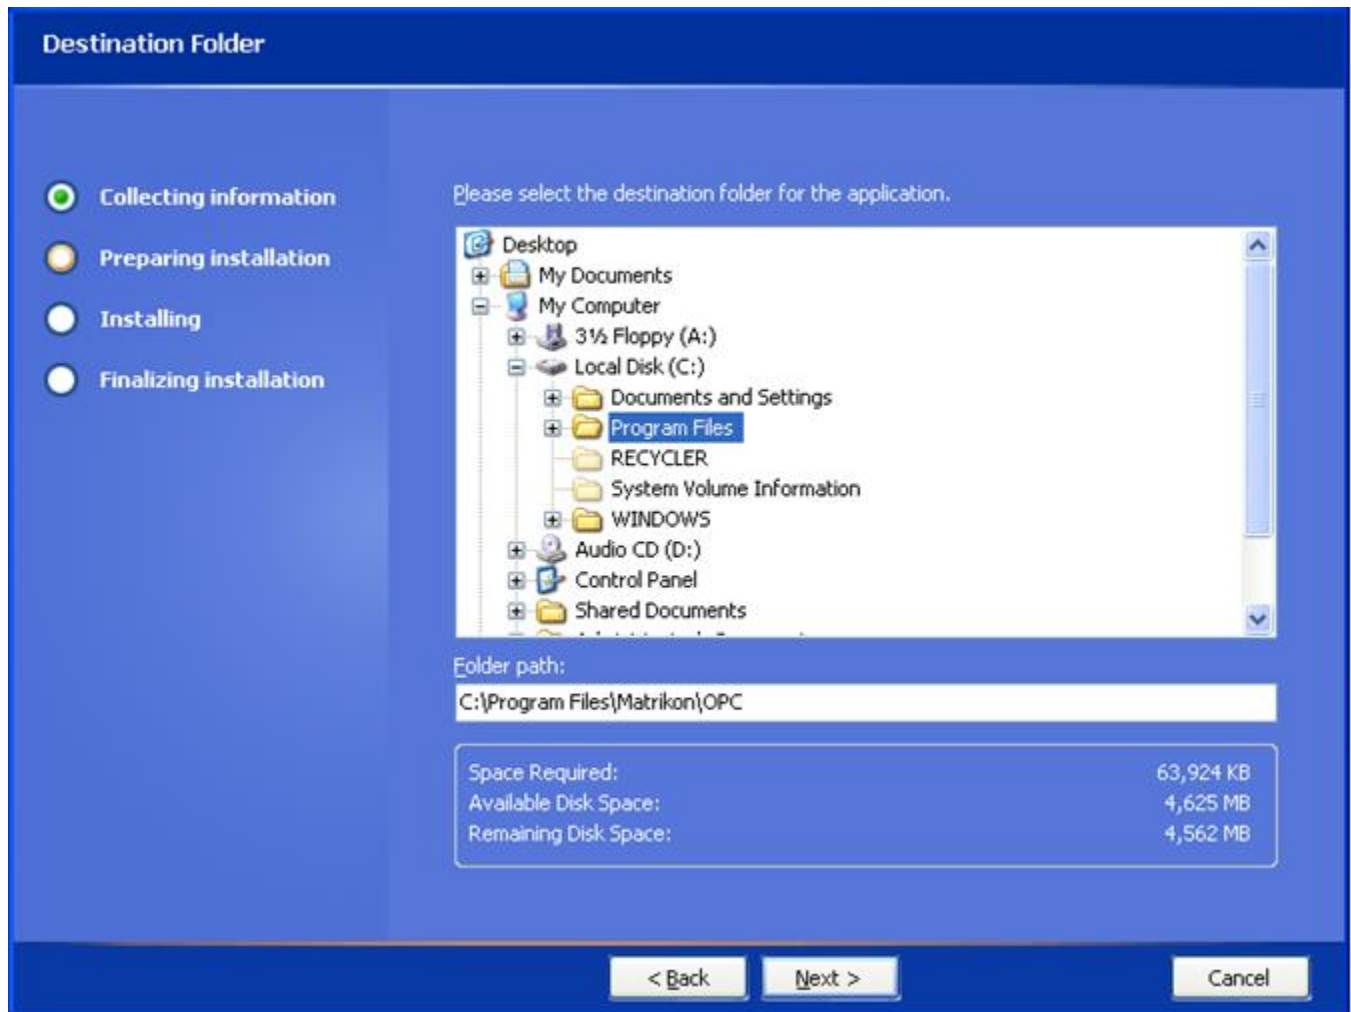

Figure 83 - Destination Folder Screen
11. Click on the **Next** button. The **Destination Folder** screen (Figure 83) appears.